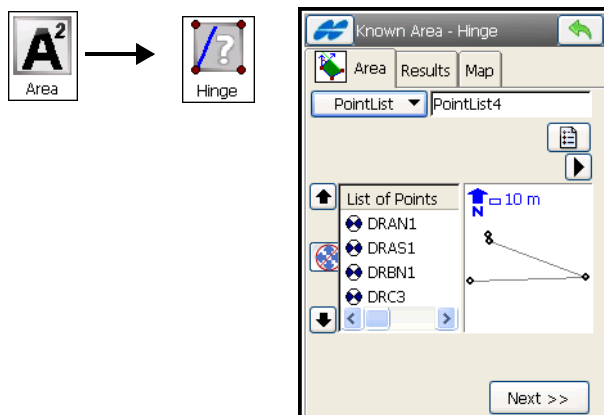

Figure 10-13. Known Area - Hinge – Area Tab 1
On the **Known Area – Hinge** screen (Figure 10-13), the Hinge method calculates the coordinates of a point that meets the following conditions:
1. Select the a *PointList*/or *Linework*/or *Area*, use the arrow buttons to change the order, as desired and tap the **Next** button (Figure 10-13 on page 10-13).